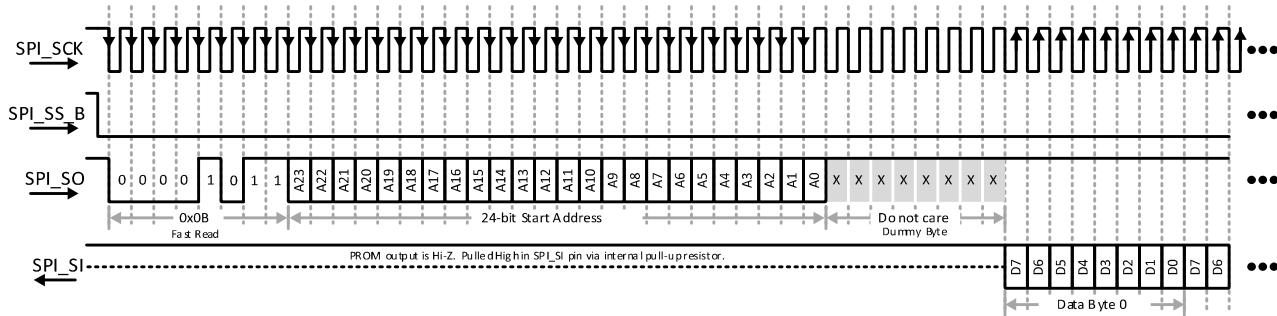

Figure 9.4. SPI Fast Read Command
- The PROM must support the 0x0B Fast Read command, using a 24-bit start address and has 8 dummy bits before the PROM provides first data (see Figure 9.4).
Figure 9.4 illustrates the next command issued by the iCE40 device. The iCE40 SPI interface again drives SPI_SS Low, followed by a Fast Read command, hexadecimal command code 0x0B, followed by a 24-bit start address, transmitted on the SPI_SO output. The iCE40 device provides data on the falling edge of SPI_SS. Upon initial power-up, the start address is always 0x00_0000. After waiting eight additional clock cycles, the iCE40 device begins reading serial data from the SPI PROM. Before presenting data, the SPI PROM's serial data output is high-impedance. The SPI_SI input pin has an internal pull-up resistor and sees high-impedance as logic '1'.